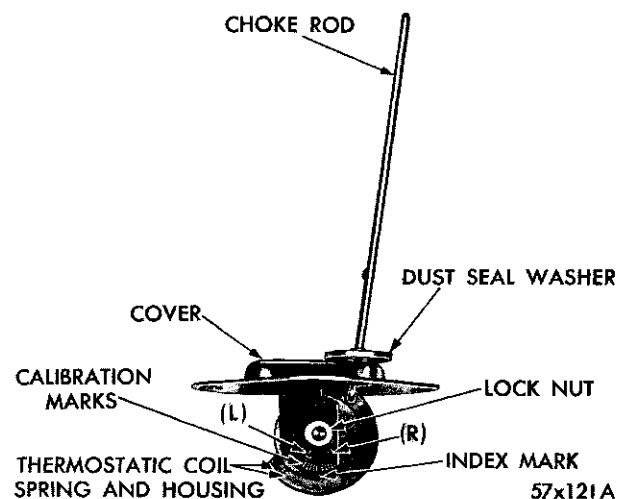
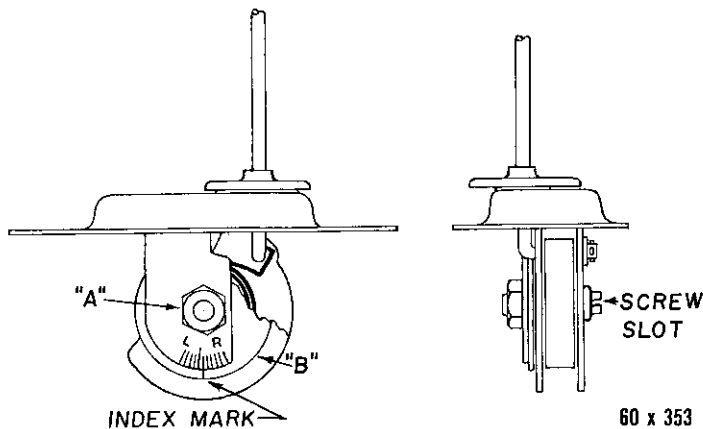

Fig. 35—Automatic Well Type Choke
Fig. 36—Adjusting the Well Type Choke
(3) Figure 35 shows the component parts of the control unit along with the number stamped on the crown of the cover.
(4) When installing the well type choke unit, make certain that the coil housing does not contact the sides of the well. Any contact at this point will affect choke operation.
(5) Do not lubricate any of the choke parts or the control unit, since this causes dirt to accumulate, which would result in a binding condition of the choke mechanism.
(6) Do not attempt to change the calibration setting. This is pre-determined and should it be changed, improper choke action would result.
(7) The choke control unit is accurately adjusted when originally assembled. Under normal service operation, it is recommended not to change the setting, or to disassemble the components for servicing. If, however, the setting has been disturbed, refer to Figure 36, then reset as follows:
(8) Loosen locknut "A" and turn part with screwdriver until index mark on disk "B" coincides with the first mark to the right of center mark on the bracket. Hold in this position with screwdriver while tightening nut.